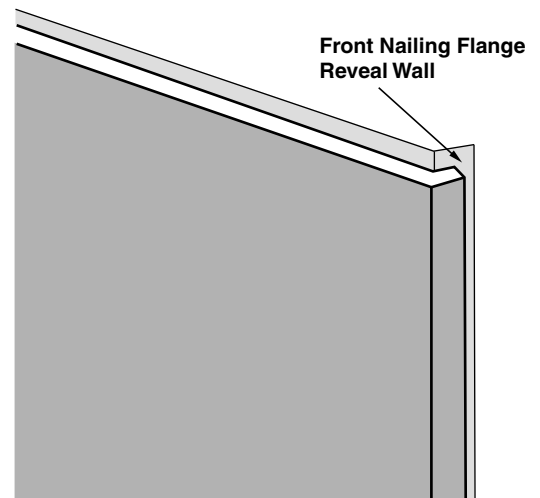

Figure 4
- 3b If the unit has a reveal, measure the distance to the front nailing flange of the reveal wall. (See Figure 4) This will be referred to as Dimension B.